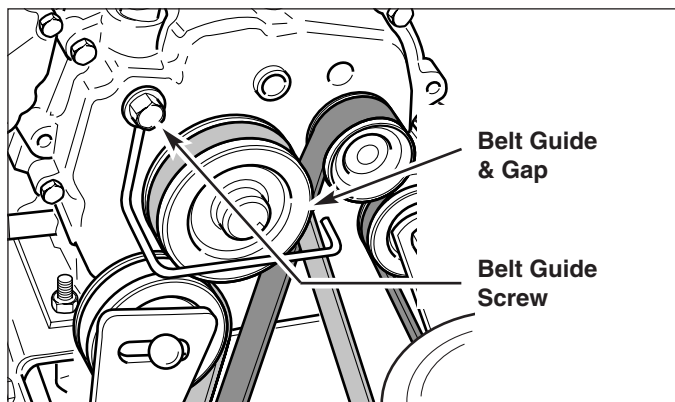

Figure 27. Auger Belt Guide Adjustment
1. With the Auger Control still fully depressed, adjust the Auger Belt Guide so that there is a 1/64" gap (1/32" Maximum) between the end of the guide and the belt (Figure 27), making certain the guide is NOT putting pressure on the belt.
2. Making certain the Auger Belt Guide does NOT move while doing so, tighten the Auger Belt Guide Screw (Figure 27) to secure the guide.
3. Check the adjustment on the Auger Belt Guide (Figure 27) to make certain that the gap between the belt and the belt guide is correct.
4. Loosen auger belt guide and slide belt off engine pulley and away from idler pulley. (See Figure 27).